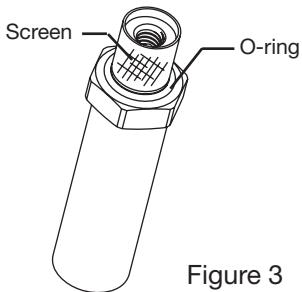
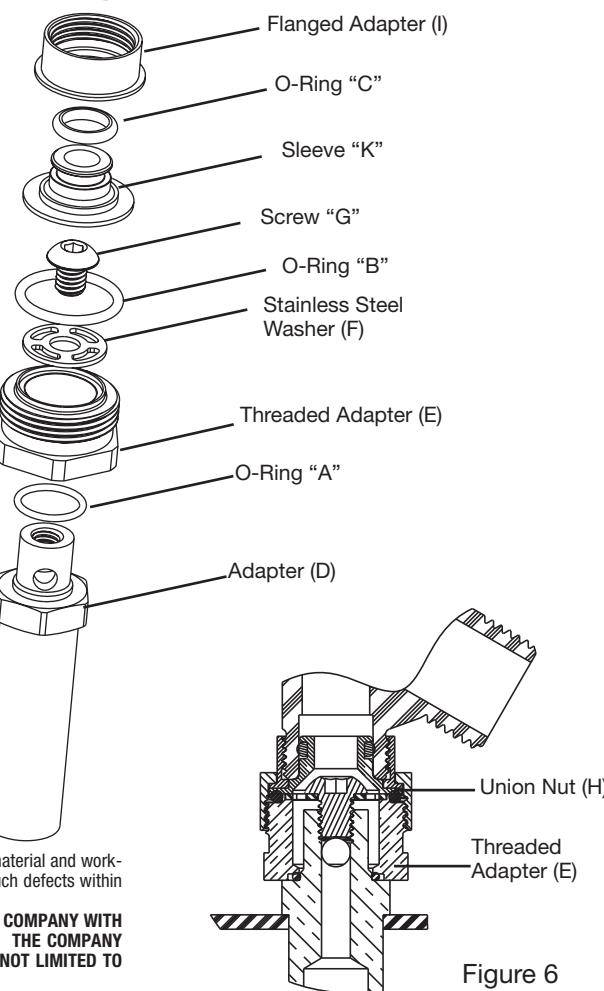

Figure 3
Figure 6
6. Remove the screen and the O-ring from the inlet fittings. (See Figure 3).
7. Using the O-ring grease provided, lubricate and install the new O-ring "A" provided onto the adapters (D).
8. Install threaded adapter (E) over the inlet fittings, being careful to insure that the O-ring seats in counter-bore on the underside of the adapter.
9. Install the stainless steel washer (F) on to the adapter.
10. Install the stainless steel hex screw (G) to retain the washer. Tighten using  $\frac{3}{16}$ " Allen Wrench.
12. Install the union nut (H) over the flanged adapter and thread the flanged adapter (I) onto the A2-M1 body inlet. Tighten hand tight.
13. Lubricate and install the O-ring "C" onto the valve sleeve (K).
15. Upon completion of steps 7-14 for both body inlets, align and place both sleeves on top of threaded adapters. (See Figure 6).
16. Thread union nut (H) onto threaded adapter (E). Tighten wrench tight.